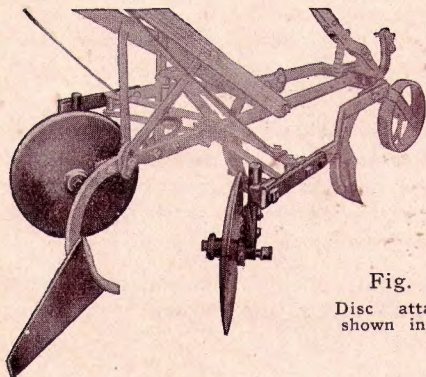

Fig. 516
Fig. 516 can be applied to any "IRON AGE" Five-Tooth Cultivator or Horse Hoe shipped ready to attach. Does not include rear standard or cultivator tooth but the steel steadying plate shown in black is part of the attachment. This attachment is used for ridging, for turning the soil from growing plants and for covering.
The 12-inch Discs have cast axles and chilled bearings. Sand Caps protect against dirt. Adjustable grease cups. The discs can be adjusted to any angle. Fig. 516 shows them set to throw to the row. If wanted to throw soil away, change discs to opposite sides.
- No. 602EL—No. 600EL less Horse Hoe Attach., plus Fig. 516 and No. 83 Point.